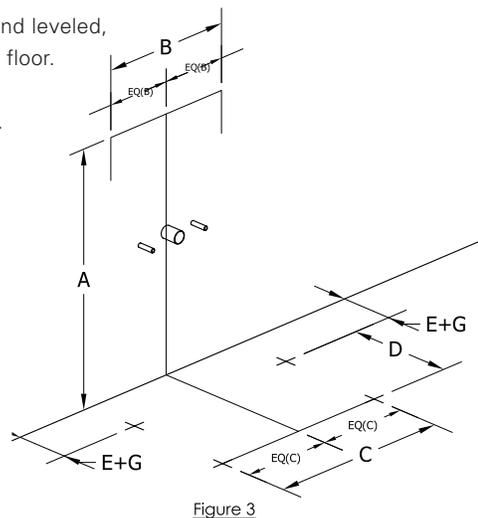

Figure 3
- c. Remove the top and the base assembly. See Figure 3.